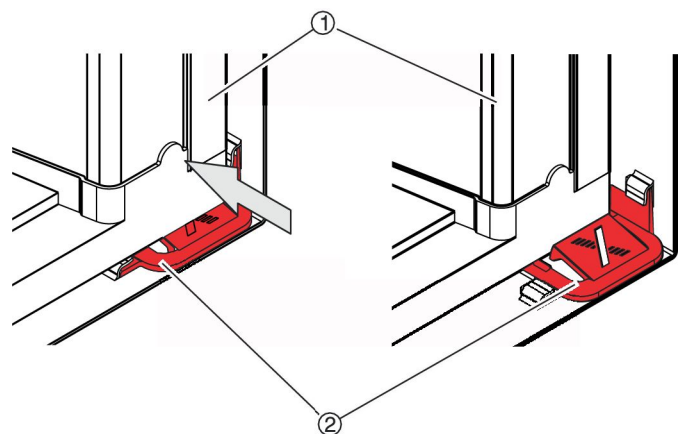

Fig. 56: Filter element locks in place
6. Push the new filter element (Fig. 56 /1) in and over the quick release fasteners (Fig. 56 /2) until it locks into place.